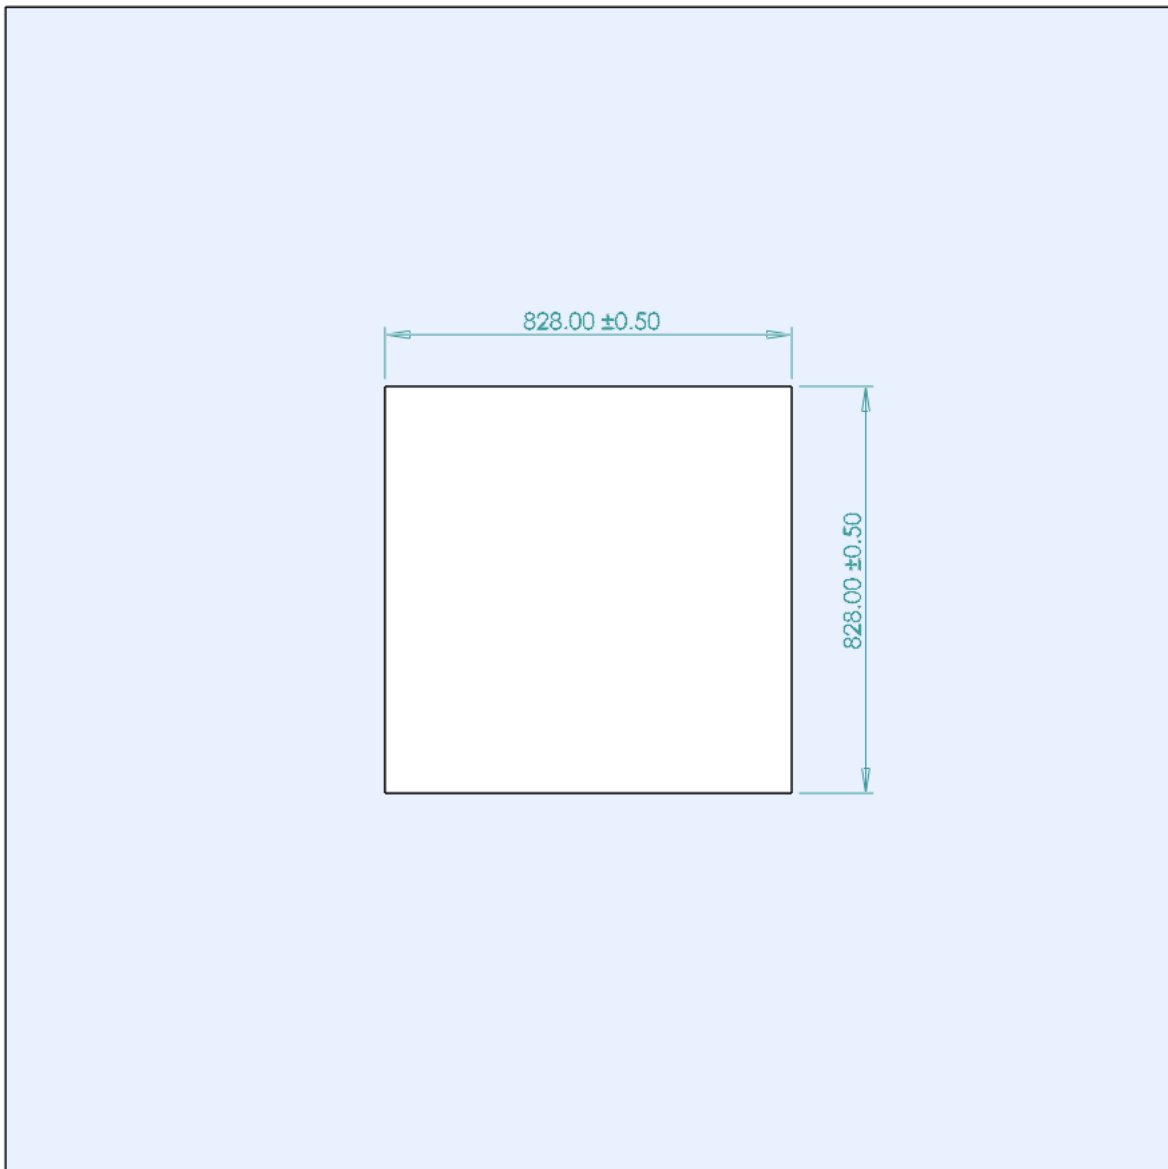

Figure 8 – Dimensions of roof opening.
1. Create roof opening of minimum 828mm x 828mm *on the horizontal* - see figure 8.